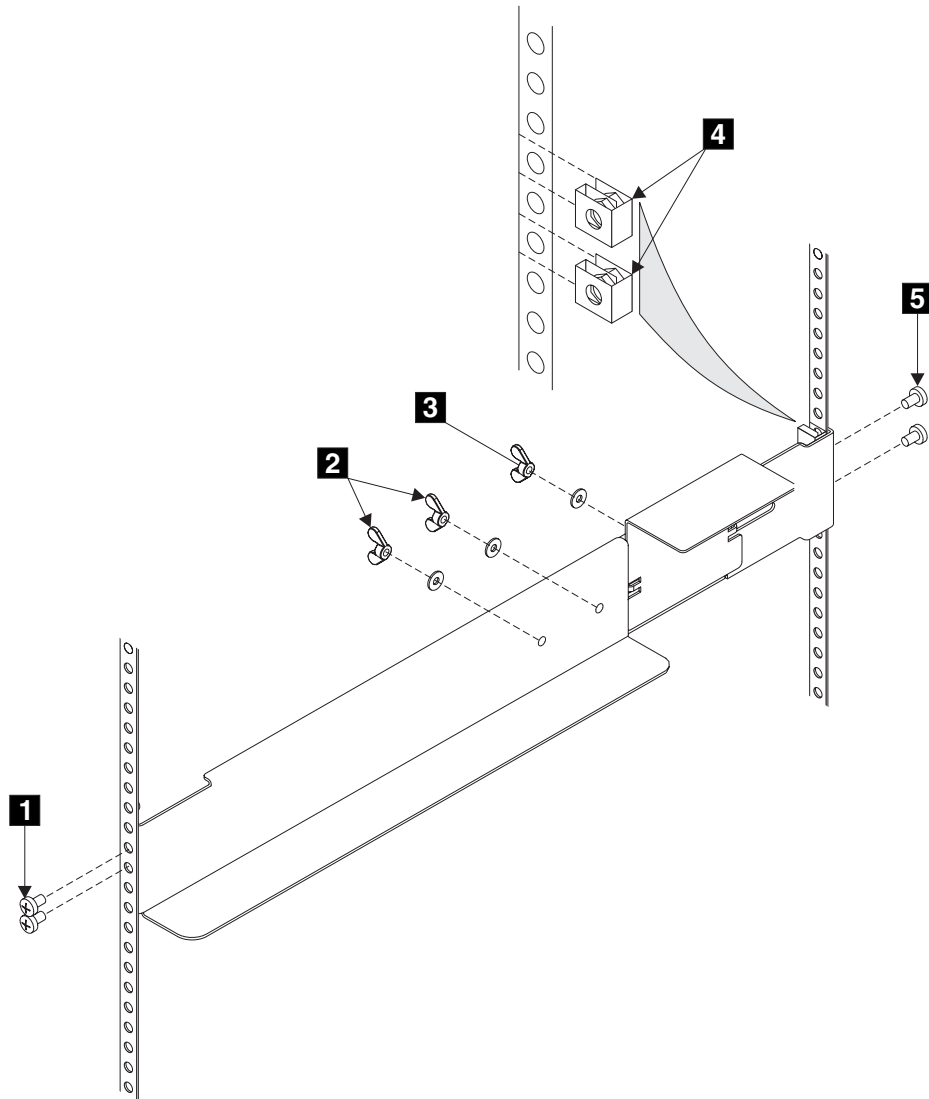

Figure 183. Removing support rails for a 2145 UPS from the rack
2. Loosen the two adjustment wing nuts **2** (Figure 183 on page 396).